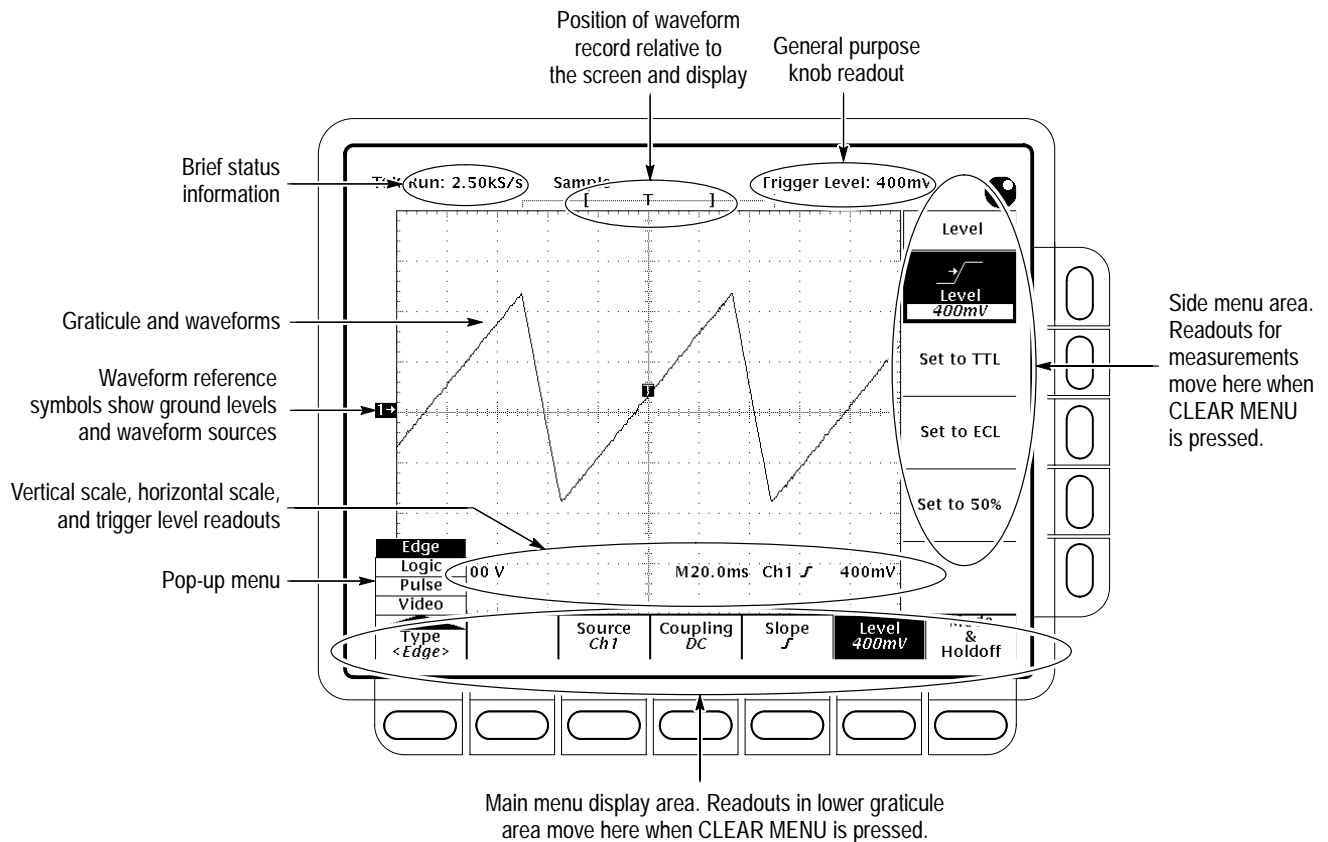

Figure 1–1: Map of display functions
- Refer to Figure 1–1: “Main menu” refers to the menu that labels the seven menu buttons under the display; “side menu” refers to the menu that labels the five buttons to the right of the display. “Pop-up menu” refers to a menu that pops up when a main-menu button is pressed.